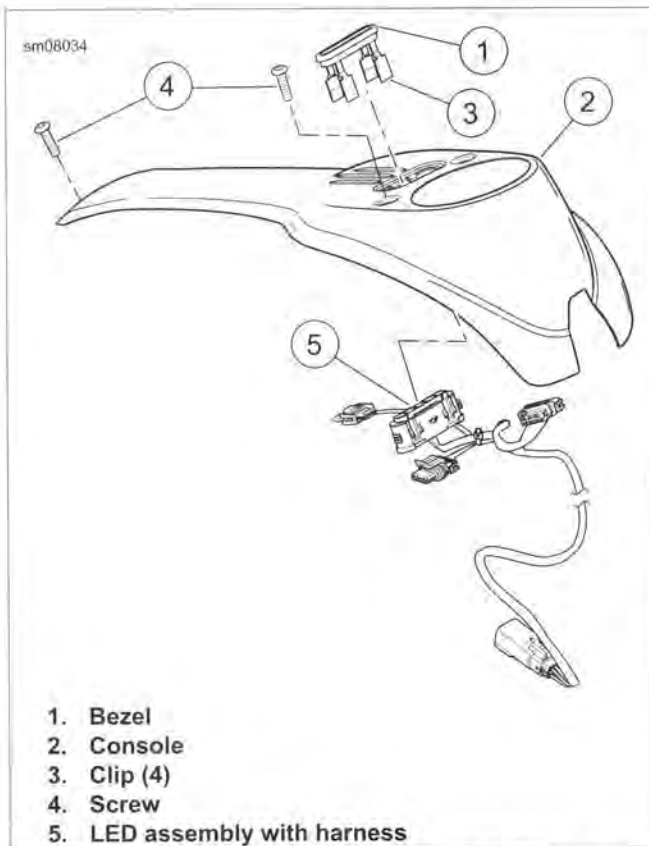

Figure 7-81. Indicator Lamp Assembly: FXDB, FXDBC, FXDBP, FXDWG and FXDF (typical)
1. See Figure 7-81. Remove console screws (4).
2. Raise console (2) from fuel tank. Place shop rags on tank and turn console over to expose underside.
3. Release clips (3) to free LED assembly with harness (5) from console.
1. See Figure 7-81. Install LED assembly with harness (5) into console (2).
2. Engage clips (3) into tabs on LED assembly.
5. Secure console (2) in position with screws (4). Tighten to 41-49 in-lbs (4.6-5.5 Nm).